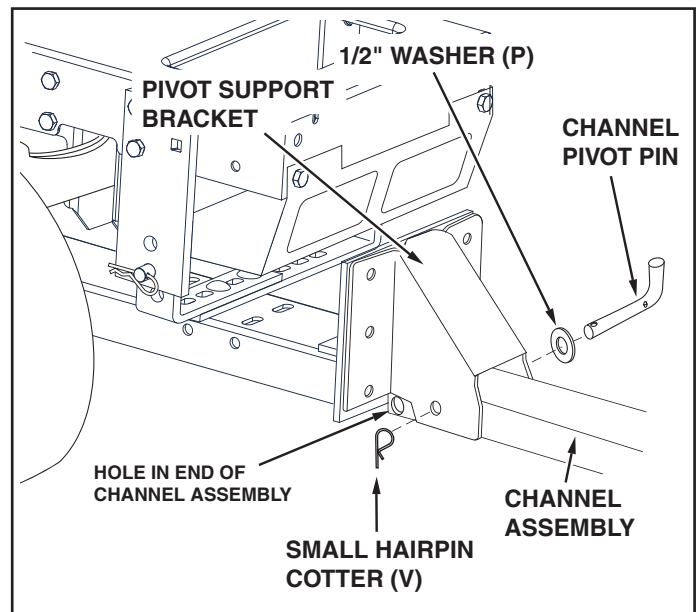

FIGURE 20 (Right Hand Side View)
STEP 20: (SEE FIGURE 20)
- Assemble the 1/2" washer (P) onto the channel pivot pin.
- Attach the channel assembly to the tractor by placing the end of the channel assembly up inside the pivot support bracket on the tractor. Align the hole in the pivot support bracket with the **second hole** in the channel assembly. Insert the channel pivot pin through the aligned holes from the left side and secure with a small hairpin cotter (V) pushed all the way through to the loop end.
STEP 22: (SEE FIGURE 20)
- Screw one 5/16" jam nut (M) approximately 3/4" onto the loose end of the control cable. Pass the cable around the outside of the lift handle rod and insert the threaded cable end through the cable mount bracket on the lift handle tube. Secure the cable with another 5/16" jam nut (M). **Tighten.**